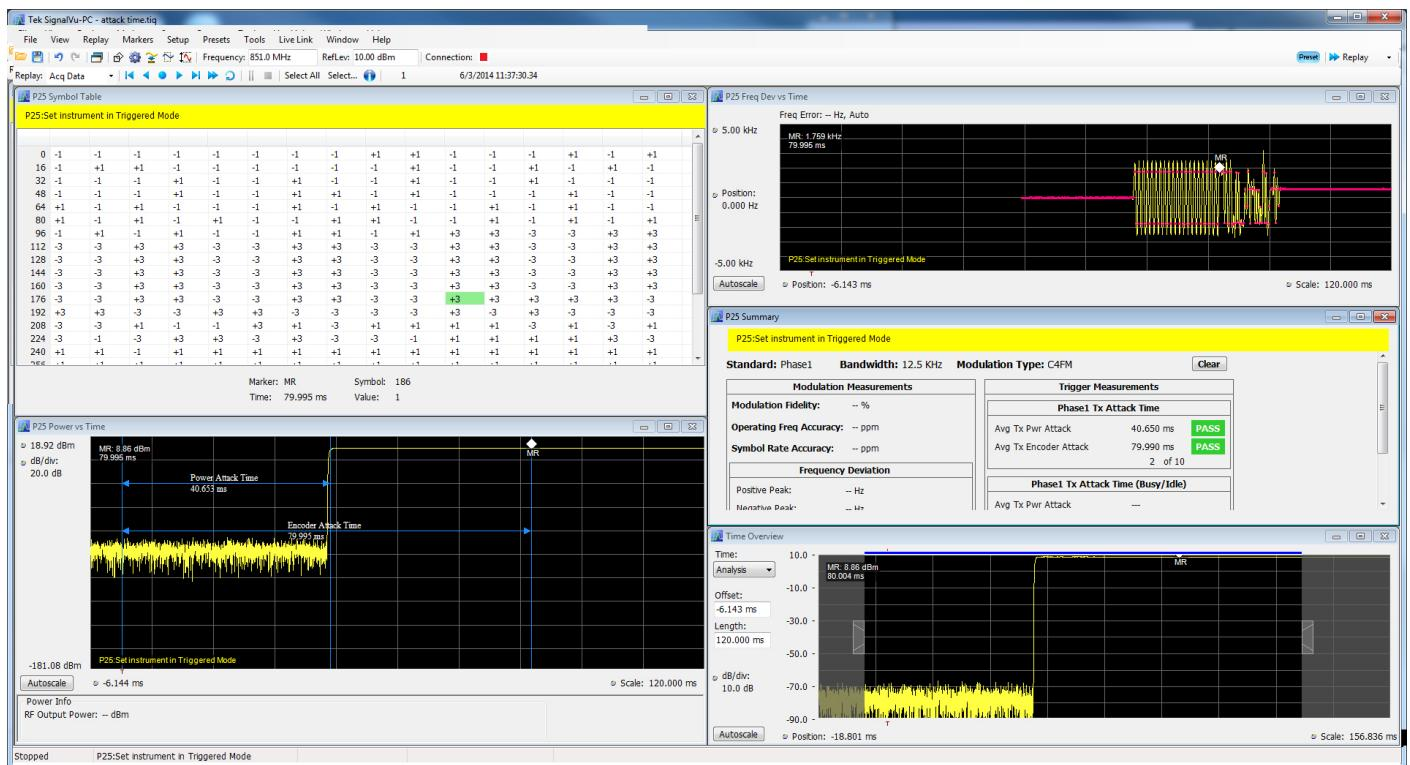

Figure 17. Power attack and encoder attack time results cross related over multiple displays.
- Result:** The result is displayed in the P25 Summary display at the time of the measurement as shown in Figure 17. Note that only this result will be populated in the P25 Summary display and everything else will have no result. The P25 Power vs Time display shows marking from the trigger point to 50% ramp point and also up to the Synchronization word respectively for the transmitter power attack time and the transmitter encoder attack time. P25 Freq Dev vs Time can also be used to check for the synchronization word. In addition, users can also cross reference the first symbol of synchronization in the P25 Symbol Table.